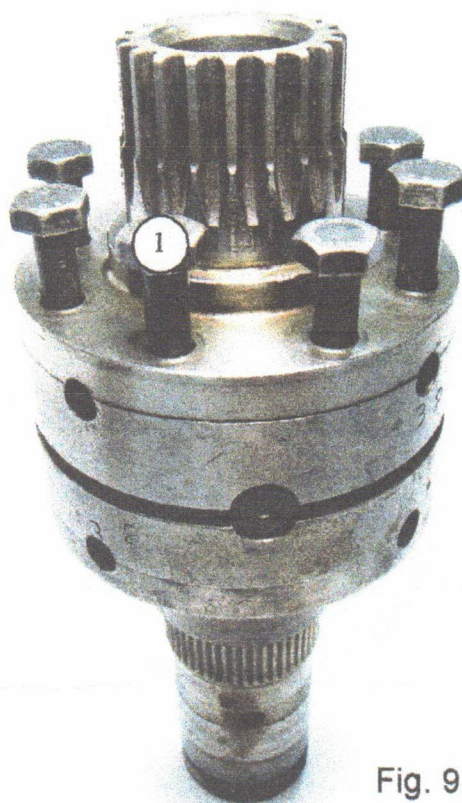

Fig. 9
- 11) Replace the original screws (1) and tighten according manufacturer recommended torque [Fig. 9].